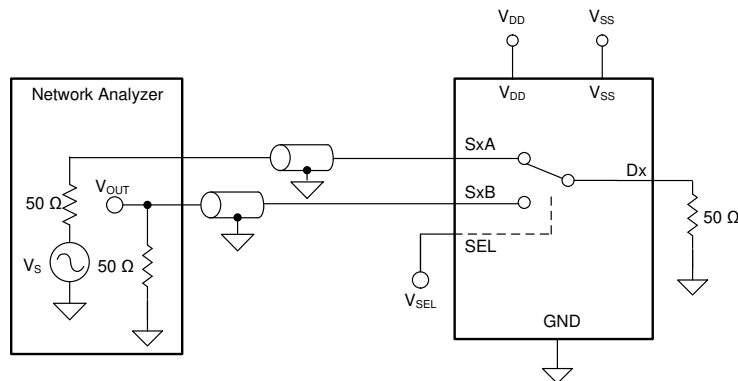

Figure 7-8. Intra-Channel Crosstalk Measurement Setup
1. Intra-channel crosstalk: the voltage at the source pin (S_x) of an off-switch input, when a 1-V_{RMS} signal is applied at the source pin of an on-switch input in the same channel, as shown in Figure 7-8.